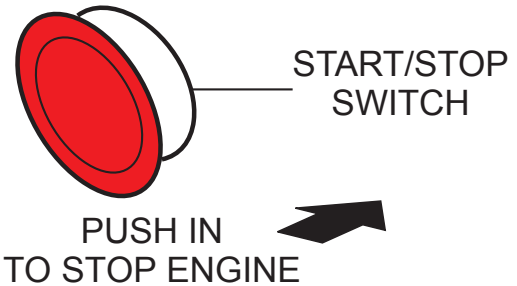

Figure 17. Start/Stop Button (Stop Position)
1. Push the main **start/stop** switch (Figure 17) inward to stop the engine.